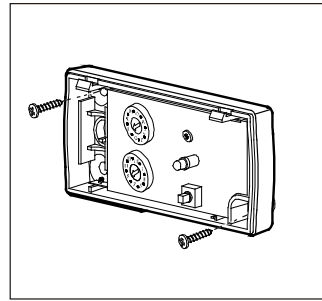

Fig. 5
3. Fit the bottom part horizontally in the required position using two screws. Fig. 5